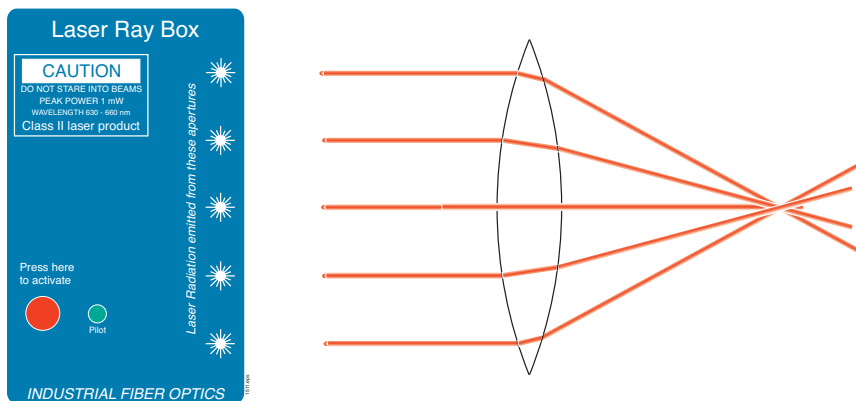

Figure 7. Laser Ray Box and a 100 mm focal length double convex lens, demonstrating the converging or focusing of light rays.
- The next step is to demonstrate light ray bending as the beams pass through an optical lens. Place a double convex lens within the 5 laser beam paths as shown in **Figure 7**.